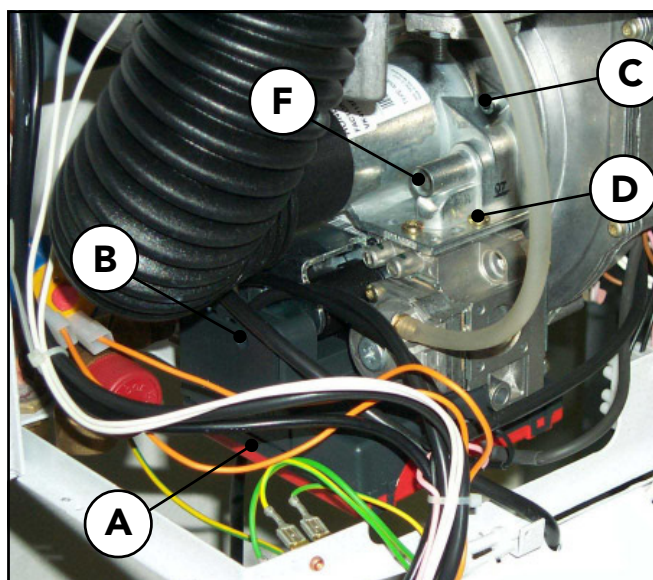

Fig. 19
If the appliance has to be used with a gas other than the one it has been set for, it is necessary to insert (or remove) the restrictor between the gas valve and the air inlet Venturi, and operate on the regulation screw F (fig. 19) placed on the Venturi unit to regulate the CO₂ content in the flue gas to the nominal value (within +/- 0.1%) described in the following table:
- 15 If necessary, slowly operate on the regulation screw F (fig.19) placed on the Venturi to bring the CO₂ content to the nominal value (within +/- 0.1%) expected in the table for the correspondent gas type. It is recommended to operate only on the screw F and not on the gas valve: this operation could compromise the correct functioning of the appliance